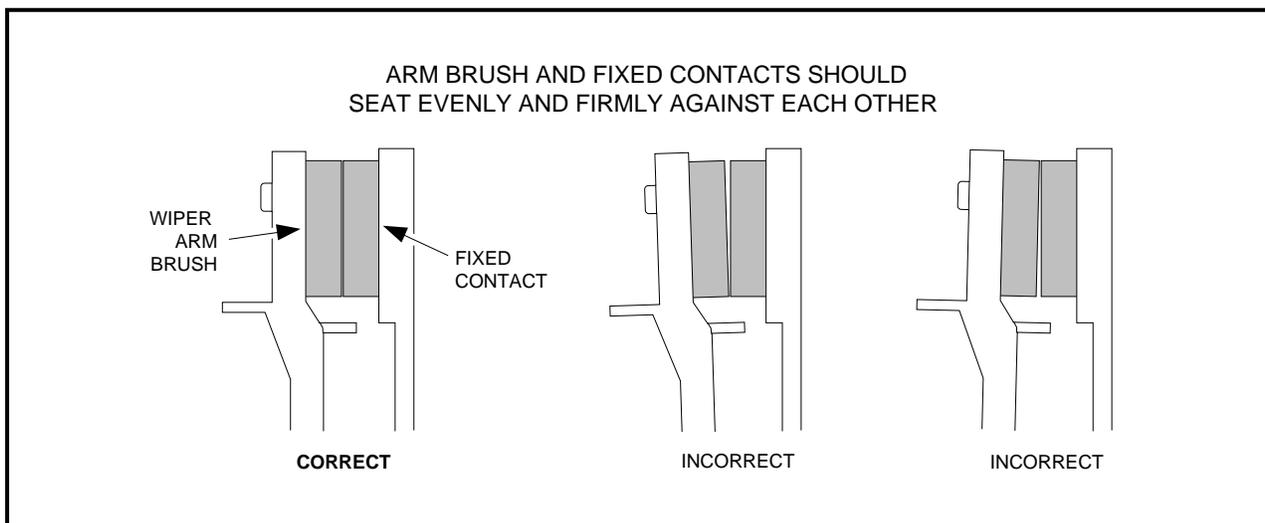

Figure 12-12 Multi-step Potentiometer Arm Brush and Fixed Contacts
The contact surfaces on the multi-step potentiometer arm brush and fixed contacts must be parallel to ensure efficient operation of the multi-step potentiometer (**Figure 12-12, Page 12-18**). Adjust arm contact as follows:
- To adjust surface contact, remove spring cotter pin (18) (if present) and turn adjustment screw (23) (**Figure 12-13, Page 12-19**) until surfaces of the multi-step potentiometer arm brush and fixed contacts are parallel (**Figure 12-12, Page 12-18**). See **NOTE** on page 12-20.